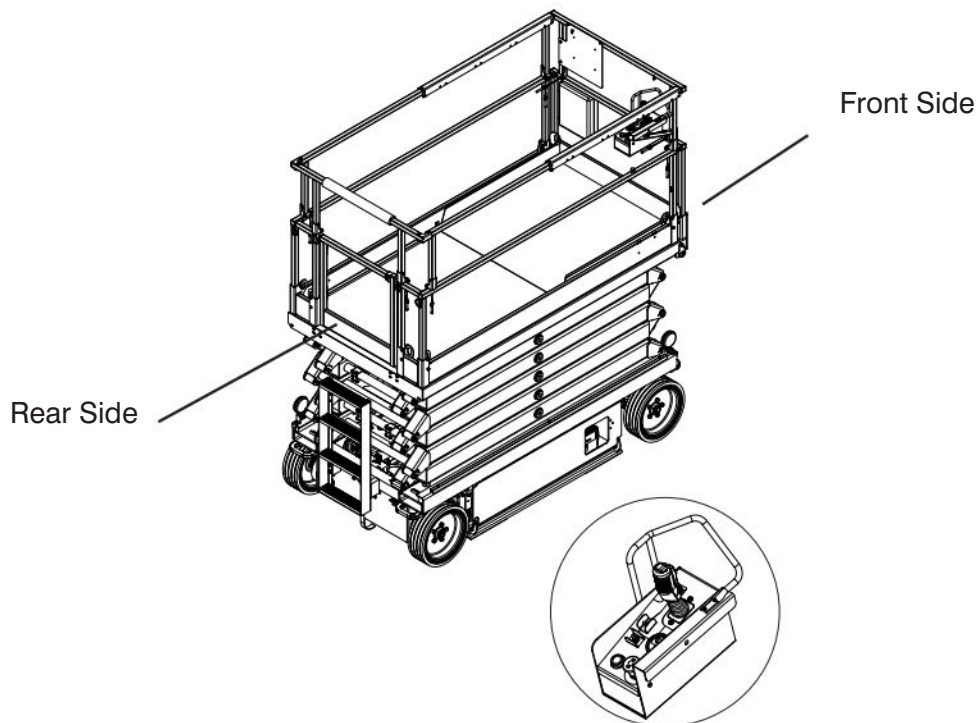

Figure 3-11. Control Box with Long Cable Outside Platform
- **Ensure the operator and control box console are properly oriented in the direction the MEWP is facing (see Figure 3-11).**